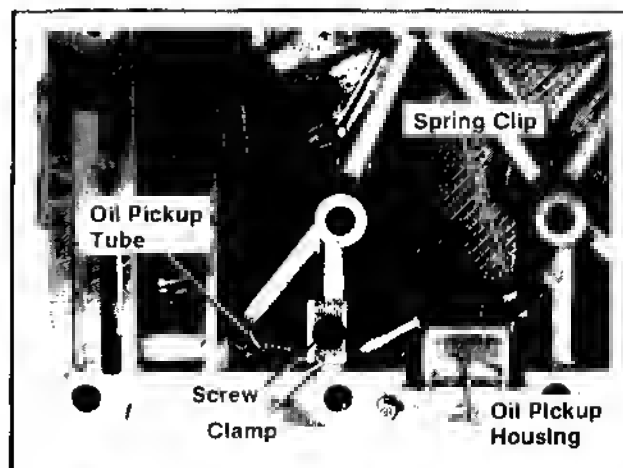

Figure 9-38. Removing Oil Pickup Components.
1. Remove the spring clip using a long-nosed pliers. Remove the oil pickup housing. Refer to Figure 9-38.